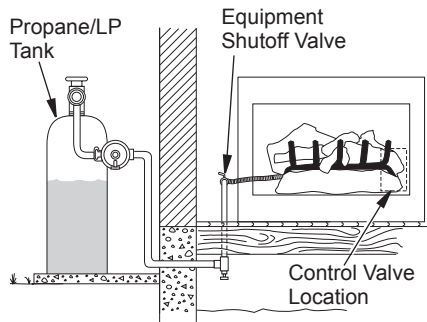

Figure 9 - Checking Gas Joints (Propane/LP Gas Only)
3. Check all joints from gas meter to equipment shutoff valve for natural gas or propane/LP supply to equipment shutoff valve for propane/LP (see Figure 9 or 10). Apply noncorrosive leak detection fluid to all joints. Bubbles forming show a leak.
4. Check all joints from equipment shutoff valve to gas control (see Figures 9 or 10, page 9). Apply noncorrosive leak detection fluid to all joints. Bubbles forming show a leak.